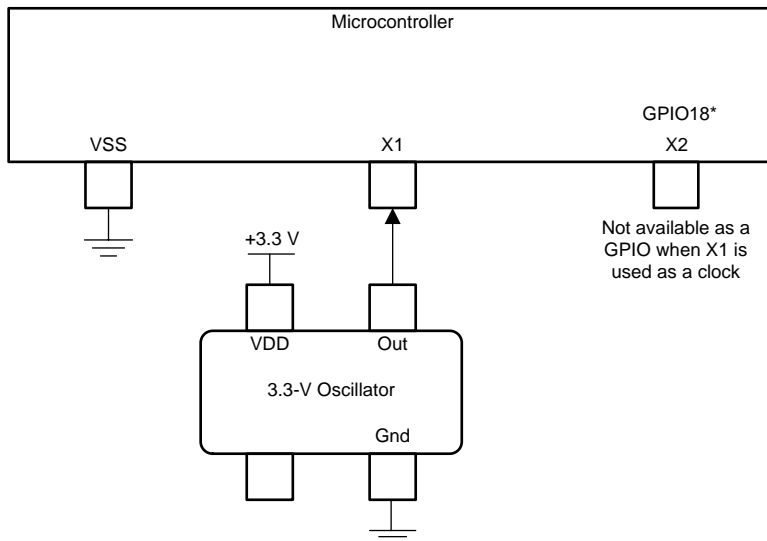

Figure 5-11. Single-ended 3.3-V External Clock
- A single-ended 3.3-V external clock. The clock signal should be connected to X1, as shown in Figure 5-11. With the XTALCR.SE bit set to 1, X2 remains in GPIO mode.